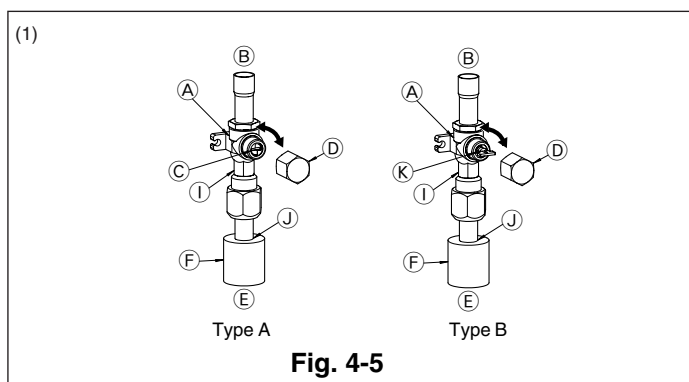

Fig. 4-5
- Make sure the stop valves (A) (B) are closed and do not open them.
- Add pressure to the refrigerant lines through the service port (C) of the liquid stop valve (D).
- If the pressure decreases in steps (2) or (3), there is a gas leak. Look for the source of the gas leak.
- Gas side of HA36 (Fig. 4-5)